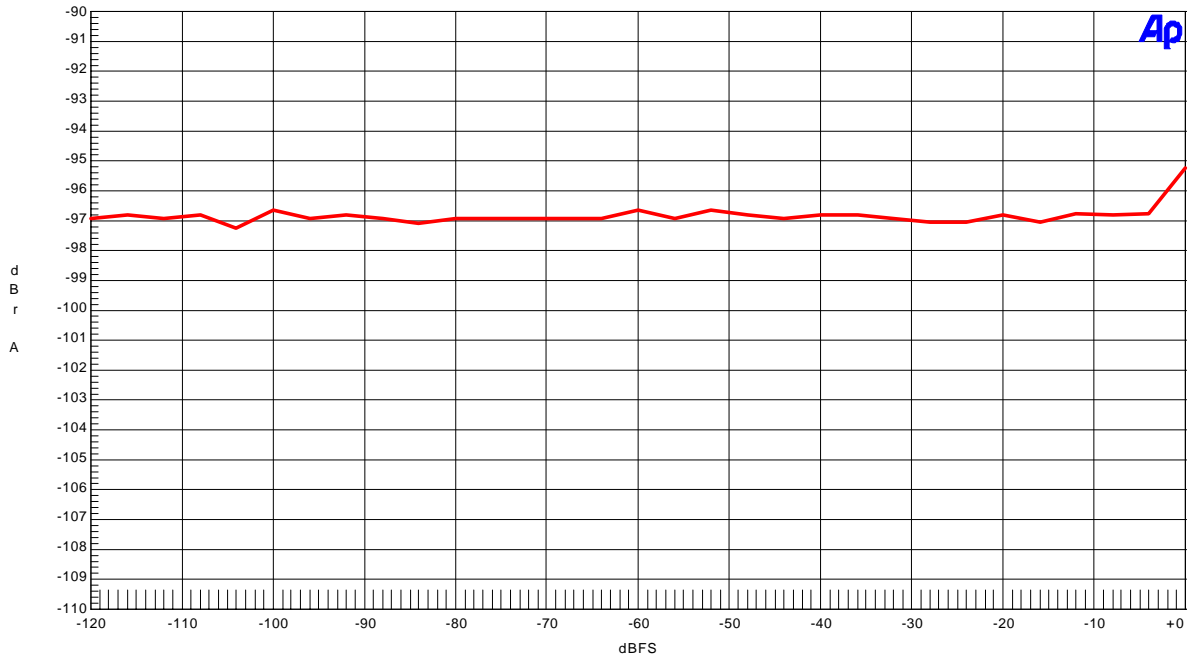

Figure 2-1. THD+N vs. Input level
- Figure 2-1. THD+N vs. Input level